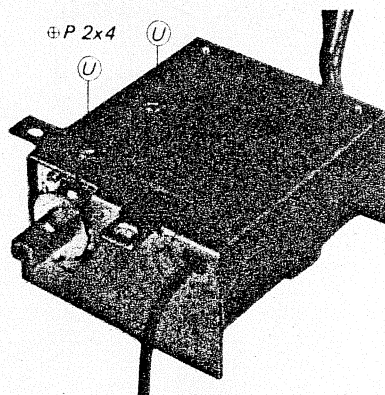

Fig. 2-18
4. Remove the two screws ($\oplus P 2 \times 4$) marked $\textcircled{U}$ in Fig. 2-18.